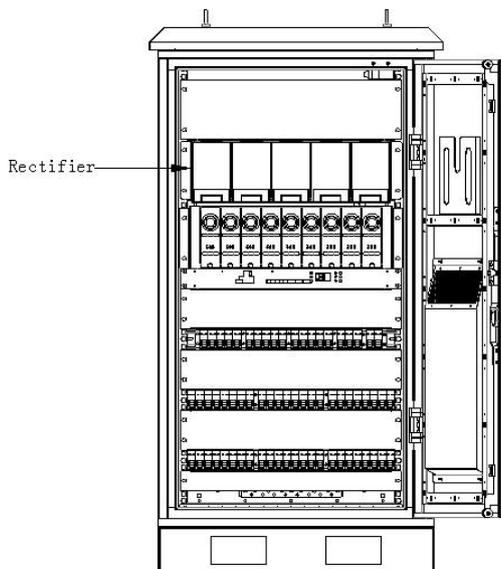

Figure 2-4 Rectifier installation complete
2. Put the rectifier in the position shown in Figure 2-4.